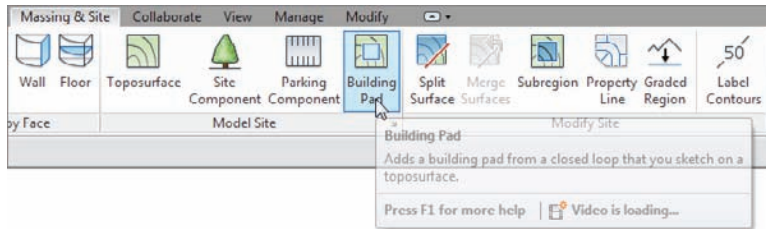

FIGURE 18.21 The Building Pad button
2. On the Massing & Site tab, click the Building Pad button, as shown in Figure 18.21.